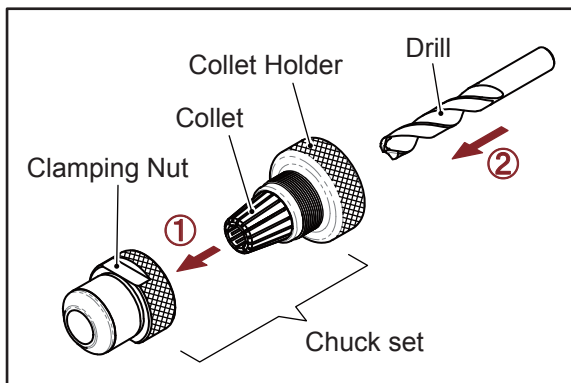
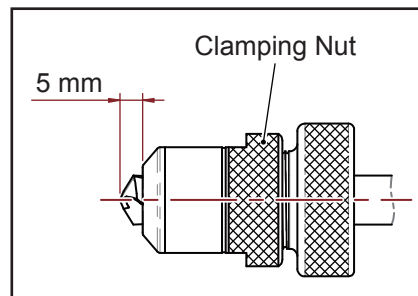

Fig. 6-2
Fig. 6-3
3. Screw in a little bit by clamping nut (Fig. 6-2 step ①), then insert the drill through the collet holder (Fig. 6-2 step ②), and push in until the drill is out of the clamping nut about 5 mm. (Fig. 6-3)